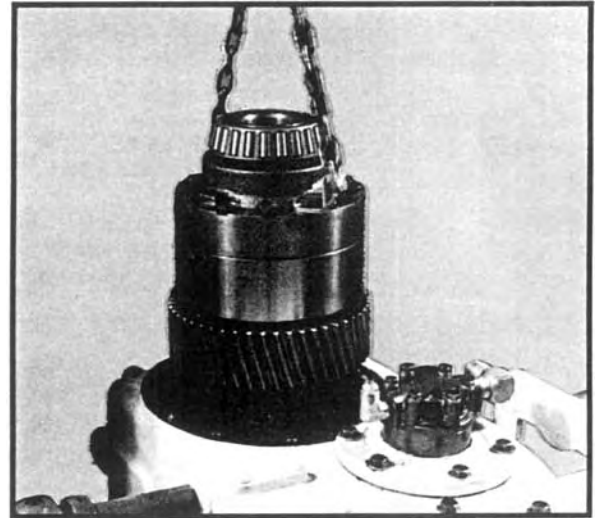

Fig 11
13. Lift out the lower shaft assembly. See Figure 11. A chain may be attached to the assembly by installing two "L" brackets under two opposing differential case half bolt heads.